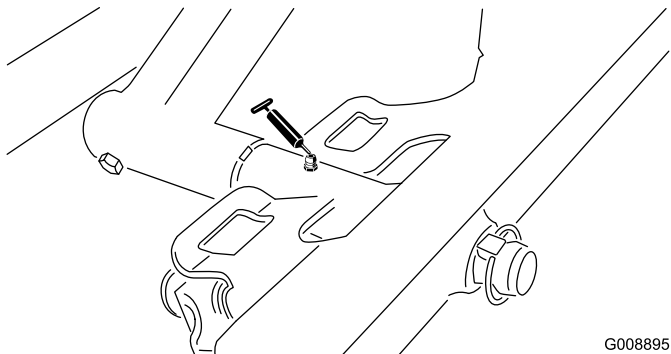

Figure 48
- Front cutting unit pivot (Figure 48)